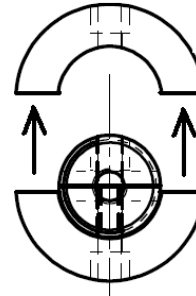

Fig 21
- 2) Open it as it is shown in fig 21;
- 3) Dismount the central conductor by unscrewing the 4 screws M8 (2).